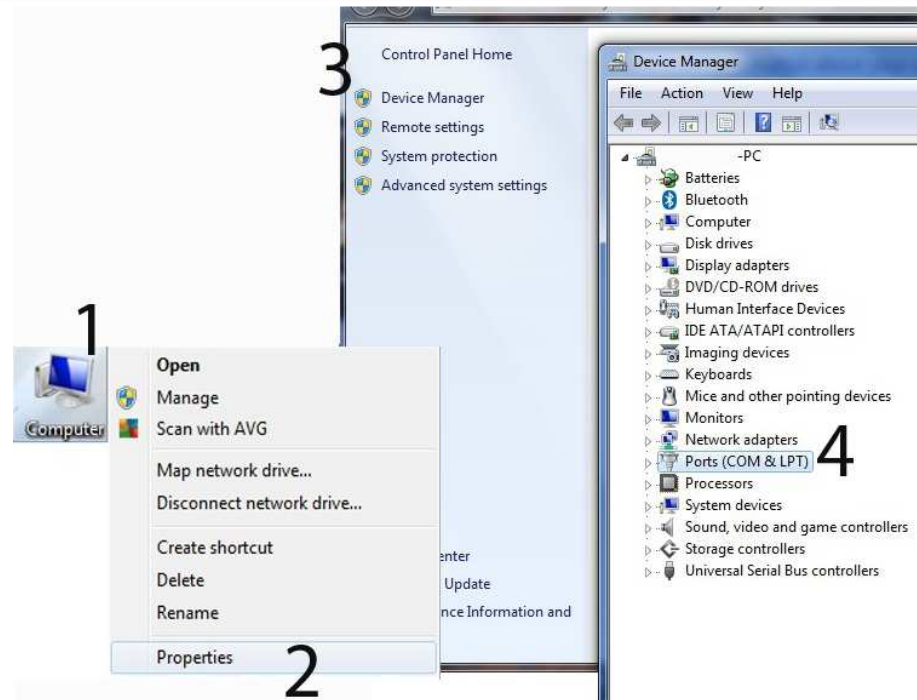

Figure 5. Finding the USB port.
13. Figure 5 shows the way to the COM port selection. Firstly right click on "Computer", then "Properties", "Device Manager" and "Ports (COM & LPT)".